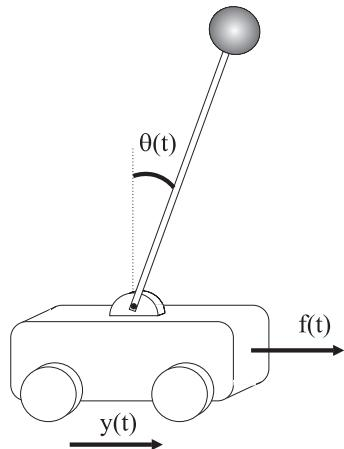

Figure 3.5: *Inverted pendulum*
*In Figure 3.5, we have used the following notation:*